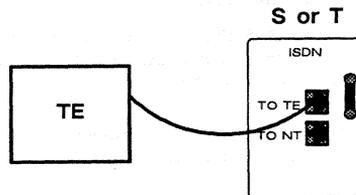

Figure 48-5 When emulating DCE in normal transmit mode, break the S or T interface toward the ISDN terminal (TE).
2. *Emulate DCE in normal transmit mode.* Figure 48-5 shows the ISDN TIM test configuration when emulating DCE in normal transmit mode. Connect the **TO TE** interface to the ISDN terminal.